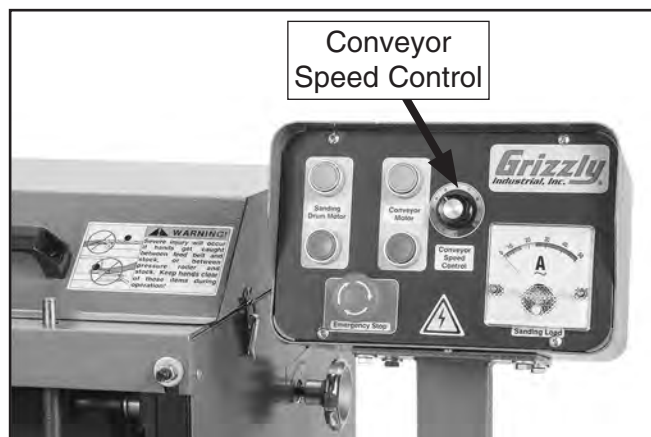

Figure 25. Location of conveyor speed control (G1066Z).
2. Slowly turn conveyor speed control (see **Figure 25**) clockwise to increase conveyor speed.